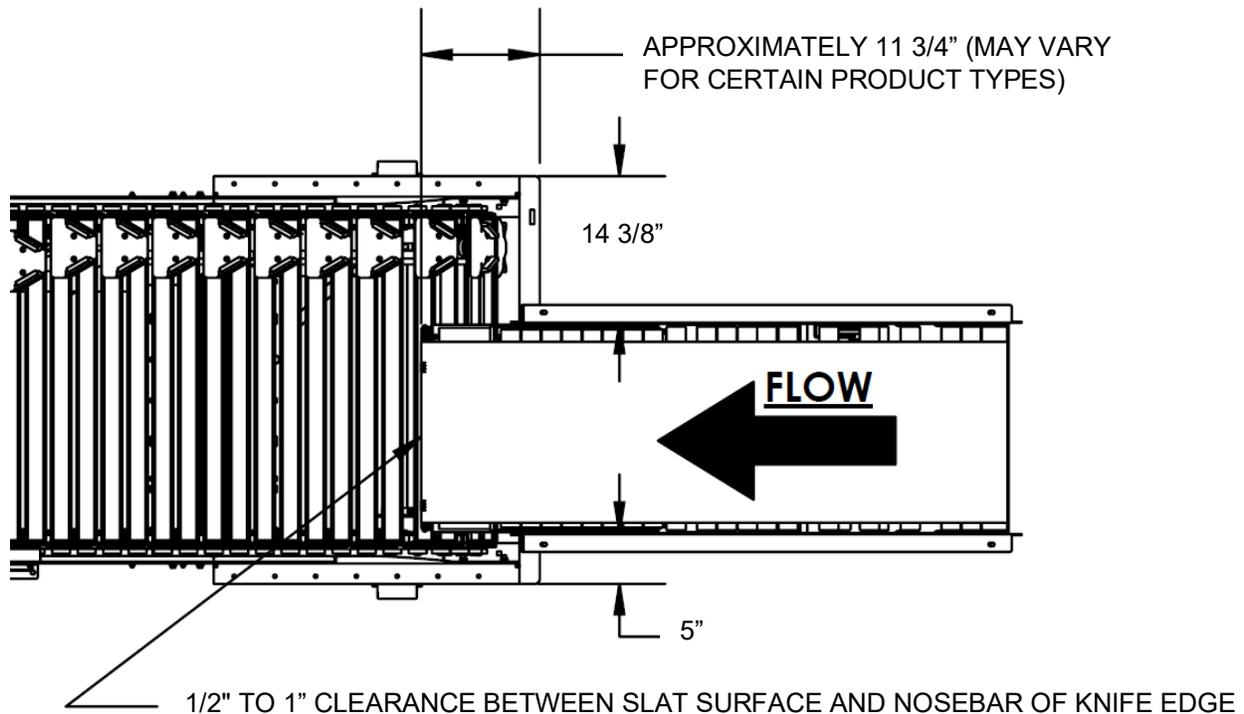

Figure 11-Knife Edge Installation Positioning
2. Recommended placement is shown in Figure 11.
3. The knife edge ships with the belt fully tensioned and the nosebar in a neutral position. The belt is tensioned by measuring between (2) marks on the belt centerline. The marks are 24" apart when the belt is slack (new) and 25-5/8" apart when the belt is fully tensioned. Ensure the marks are present before adjusting the nosebar or changing the belt tension.